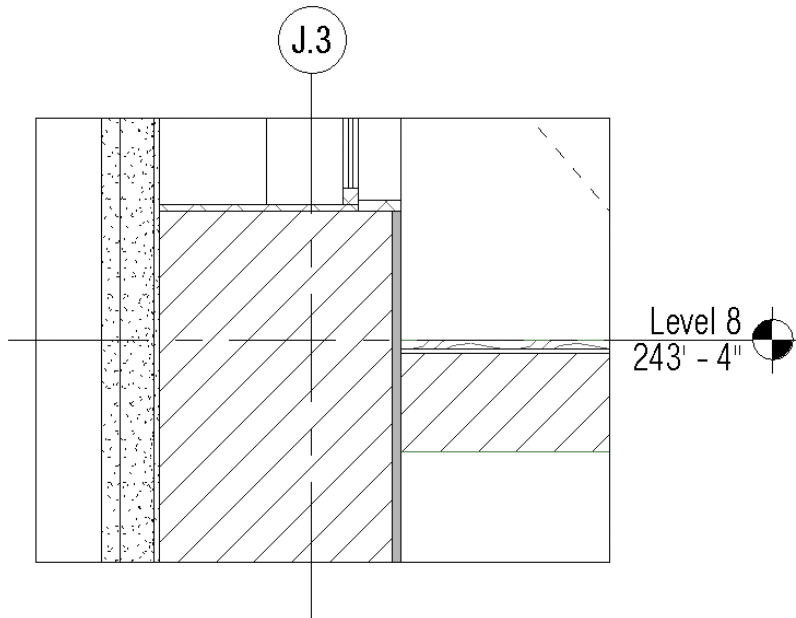

FIGURE 11.7 The window sill detail before embellishment
1. Use the Callout tool on the View tab to create a new detail of the second-floor window sill: Create a new callout, and name it `Exterior Window Sill, Typ`. The starting view looks like Figure 11.7.